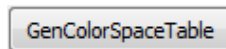

Figure 172: GenColorSpaceTable
2. When adjustment is finished, press the button "GenColorSpaceTable" (Figure 172) to generate ColorSettingTable.txt.